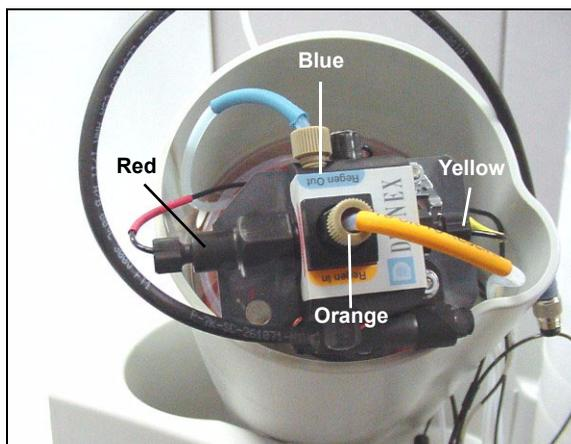

Figure B-30. Plumbed CR-TC
4. With the CR-TC oriented as shown in Figure B-30, connect the lines to the corresponding ports on the CR-TC. Match the color coded labels on the EGC holder lines to the color coded labels for the CR-TC ports.